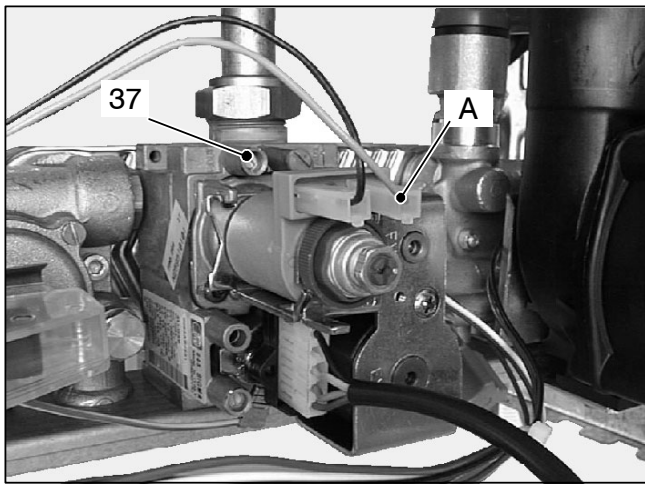

Fig. 7.4
- 2 Loosen the internal screw 37 (Fig. 7.4) on the Outlet Pressure Test Point of the Gas Valve and connect a pressure gauge using a suitable hose.
- 8 Disconnect the gas modulator coil by removing the electrical connector A (Fig. 7.4).
- 3 Unscrew the gas valve's outlet pressure test point 37 (Fig. 7.4) and connect a pressure gauge.